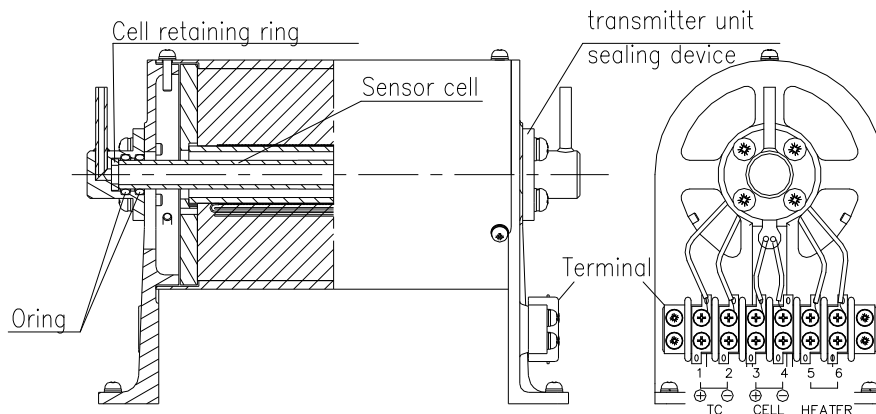

Fig. 3
- (8) Match the position of the projecting portion of the detection cell sides is substantially equal. Apply a thin coat fluorine grease (Heat-resistant temperature 260 °C or higher) to 10mm range from both ends of the detection cell outer peripheral surface. (Wipe off the fluorine grease adhering to the outside of the specified range.)
- (9) Attach the cell retaining ring (one on one side) and the O ring (two on one side) for the transmitter unit sealing device. Inserted the transmitter unit sealing device from the opposite side of the terminal block to the sensor cell and align the screw holes of the originating unit and screwed. In this case, leave holding lightly by hand detection cell edge surface of the side of the terminal block.
- (10) Next, the side of the terminal stand inserts transmitter unit sealing device in a sensor cell equally and screwed.
- (11) Connect the cell lead wires, \oplus \ominus , to 3 and 4 of the terminal platform. Refer to Fig. 3.